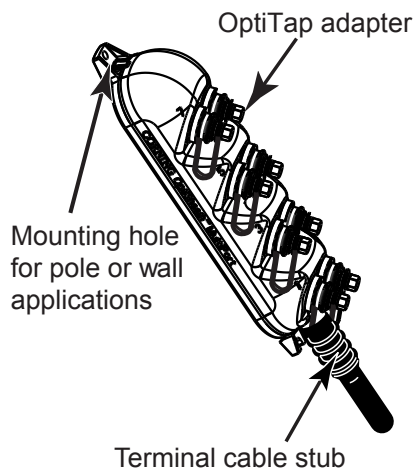

Figure 1
- OptiSheath Advantage terminal, one 4-, 6-, 8- or 12-port terminal (Figure 1)